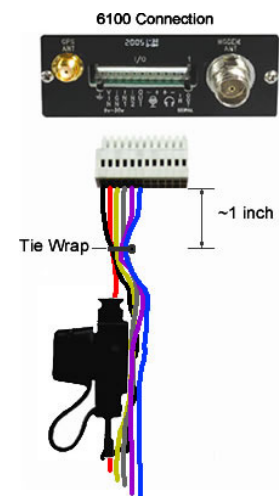

Figure 2
1. Contigo is updating the harness design to add a tie-wrap that gathers and secures the harness wires where they meet the connector as shown in Figure 2.
3. Contigo recommends that any customer inventory of 6100 Wiring Harnesses be modified by the customer to include a tie-wrap that gathers and secures the wires approximately one (1) inch from the connector (see Figure 2).